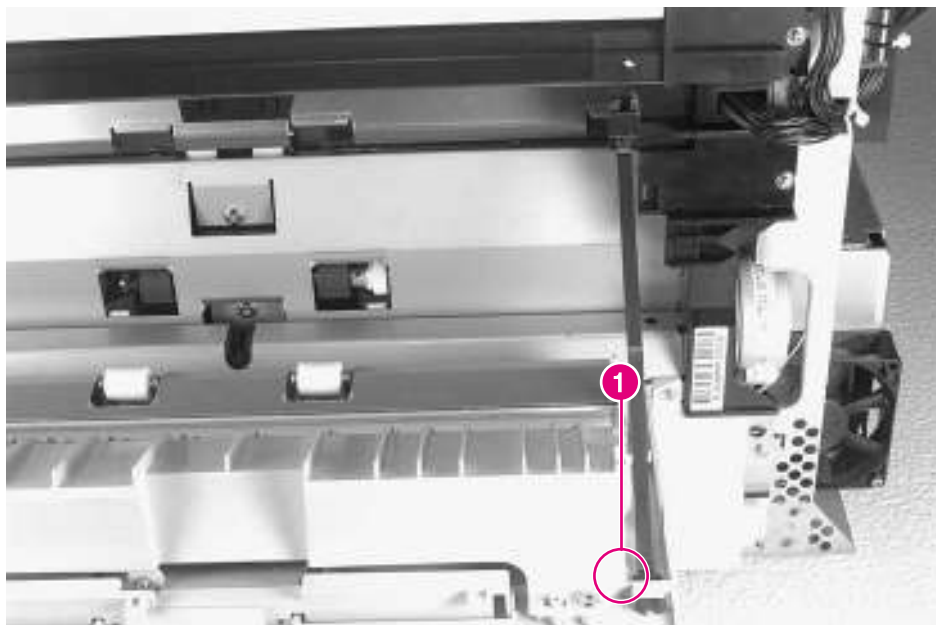

Figure 6-16 Lower Right Door Assembly (1 of 3)
- 3 Open the Lower Right Door, and release the lower end of the support strap (figure 6-16, callout 1).